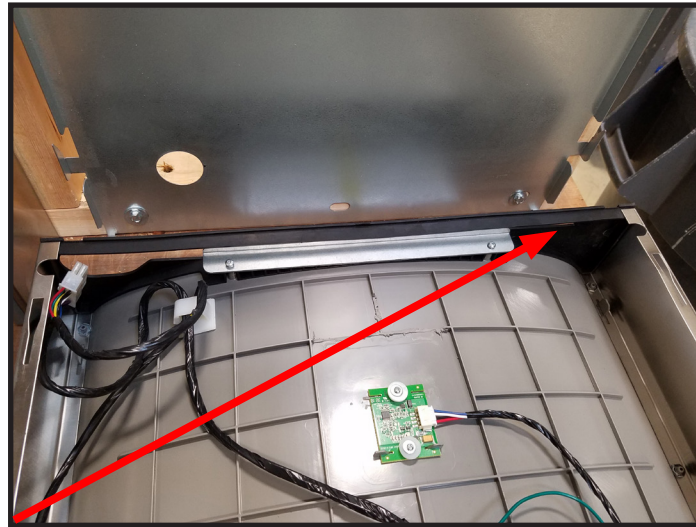

Fig. 4
- 12) Install gasket on bottom of bottle filler tower with gasket support bracket & (2) screws. (See Fig. 4, Pg. 4).